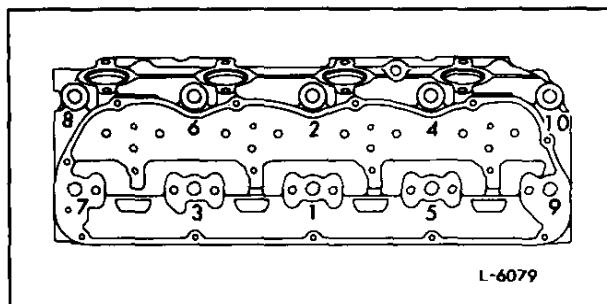

Fig. 5 - Cylinder Head Bolt Tightening Sequence
5. Tighten the bolts to 196 Nm (145 lb-ft) torque with a torque wrench, about one-half turn at a time. Tighten the bolts in the sequence shown in Fig. 5.